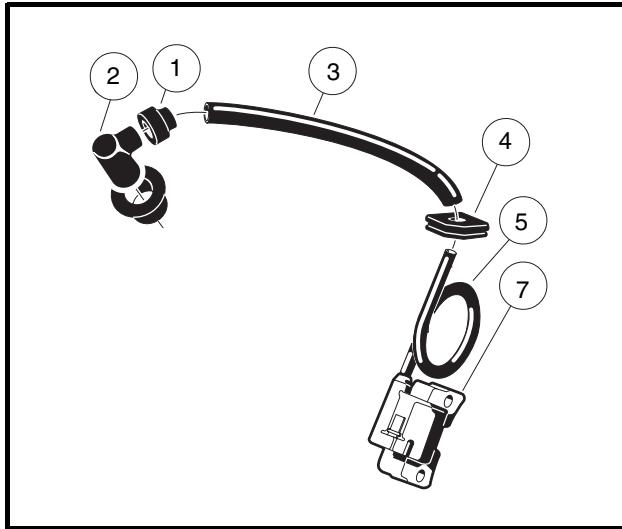

Figure 11-20 Ignition Coil and Cap
- 4.1. Remove the rubber gasket (1) on the plug cap (2) by rolling back the gasket onto the spark plug wire (3) (**Figure 11-20, Page 11-23**).